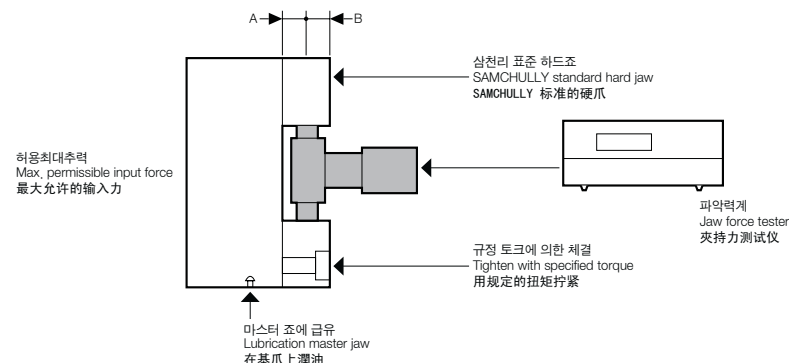

Fig.10
- (1) With SAMCHULLY standard soft top jaw used, the values of grip force are measured with jaw force tester at mid point of soft jaw height(from chuck surface to upper soft jaw face) as shown in Fig.10.
- (2) SAMCHULLY chuck grease is lubrication for obtaining the maximum efficiency of the chuck.
- (3) Mounting bolts of top jaw are tightened with specified torque. (Page18)
- (4) The maximum permissible input force for the wedge plunger is shown in the above table.
- (5) For hydraulic oil supply, the variable capacity type pump which has discharge capacity of 20 liters or more is used. Oil pressure is set with pump's own control device or a reduction valve which is provided separately from the system.